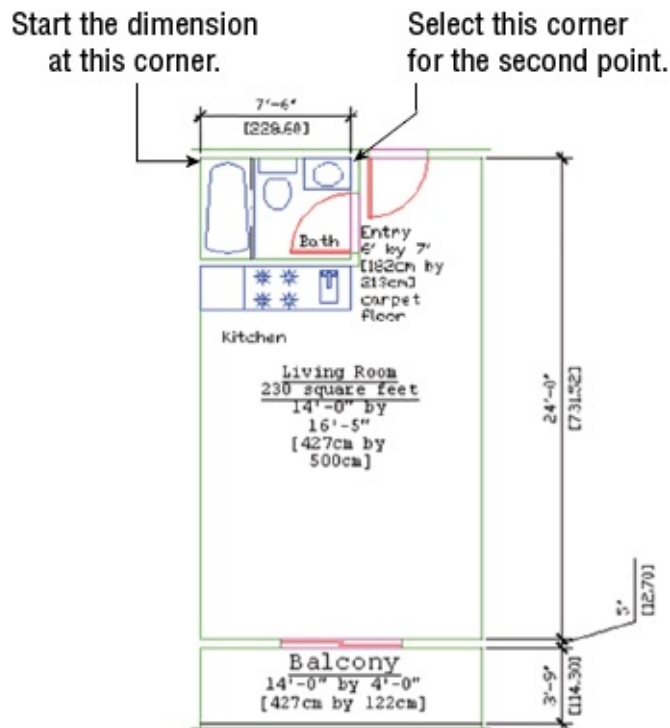

FIGURE 11.15 The bathroom with horizontal dimensions
1. Use the Zoom Realtime and Pan tools in the Navigation bar to adjust your view so that you can add dimensions above the bathroom. See the dimensions at the top of the drawing in Figure 11.15 to get an idea of how much space you'll need.
3. At the Specify first extension line origin or <select object>: prompt, use the Endpoint osnap to pick the upper-left corner of the bathroom, as shown in Figure 11.15.
4. At the Specify second extension line origin: prompt, pick the upper-right corner of the bathroom, as shown in Figure 11.15.
5. At the Specify dimension line location or [Mtext/Text/Angle/Horizontal/Vertical/Rotated]: prompt, pick a point above the unit plan, like the 7'-6" dimension in Figure 11.15. If you need to, pan your view downward to fit the dimension in.